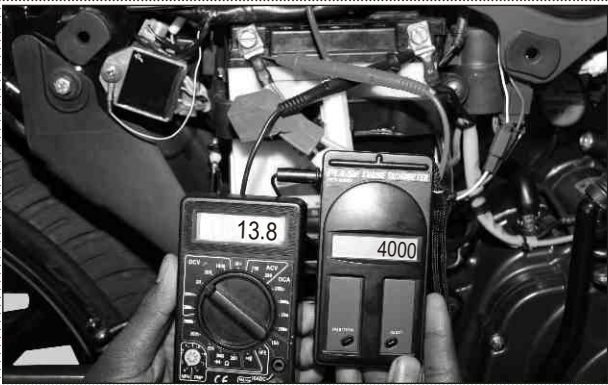

Fig. 5.32
- Connect the pocket tester '+ve' lead to the positive terminal of the battery assembly and '-ve' lead to the negative terminal of the battery assembly. (Fig. 5.32)